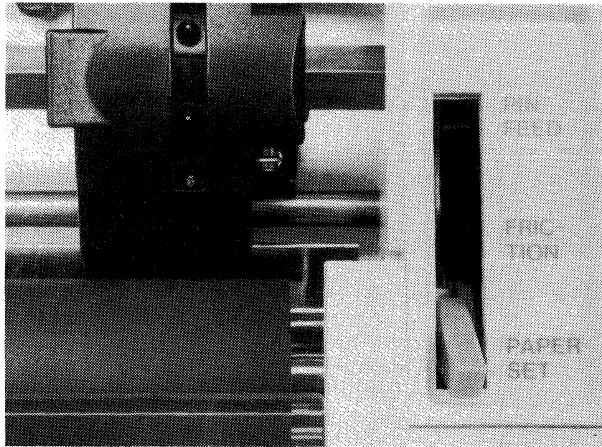

Figure 2-4A Paper Set Position
1. Place the control lever in the PAPER SET position (Figure 2-4A).
1. Place the control lever in the PAPER SET position (see Figure 2-4A).